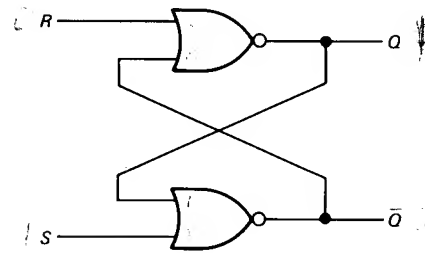

Fig. 3-27 Cross-coupled NOR gates.
- 3-5. The outputs in Fig. 3-27 are cross-coupled back to the inputs of the NOR gates. If $R = 0$ and $S = 1$, what do Q and \bar{Q} equal?
- 3-6. If $R = 1$ and $S = 0$ in Fig. 3-27, what does Q equal? \bar{Q} ?